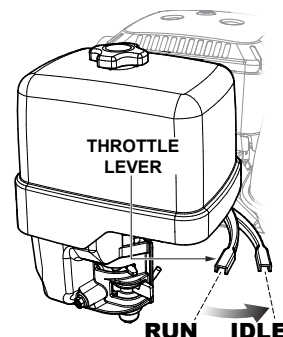

Figure 18. Throttle Lever (Idle)
1. Move the throttle lever to the **IDLE** position (See Figure 18) and run the engine for three minutes at low speed.